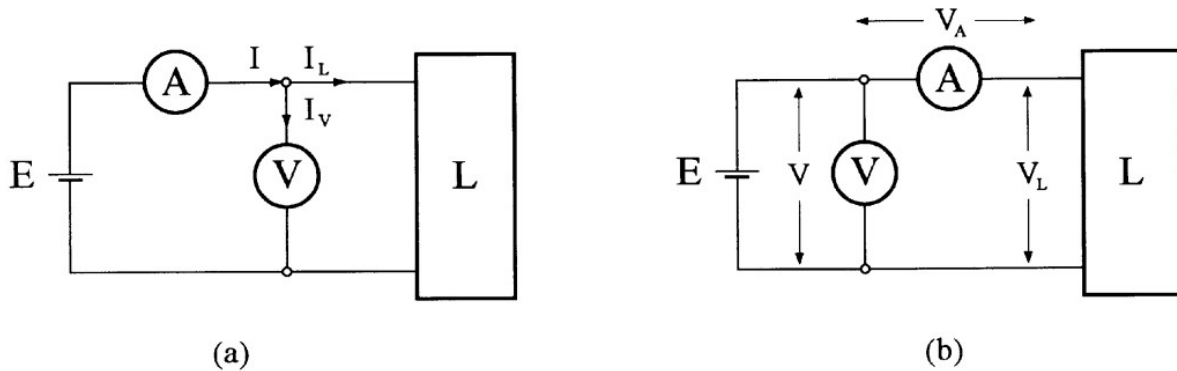

Fig. 1: Two arrangements for dc power measurement circuits.
Therefore, a power measurement in a dc circuit can be generally carried out using a voltmeter (V) and an ammeter (A) according to one of the arrangements shown in Figure 1. In the arrangement of Figure 1(a), the ammeter measures the current flowing into the voltmeter, as well as that into the load; whereas in the arrangement of Figure 1(b), this error is avoided, but the voltmeter measures the voltage drop across the ammeter in addition to that dropping across the load. Thus, both arrangements give a surplus of power measurement absorbed by the instruments. The corresponding measurement errors are generally referred to as insertion errors.